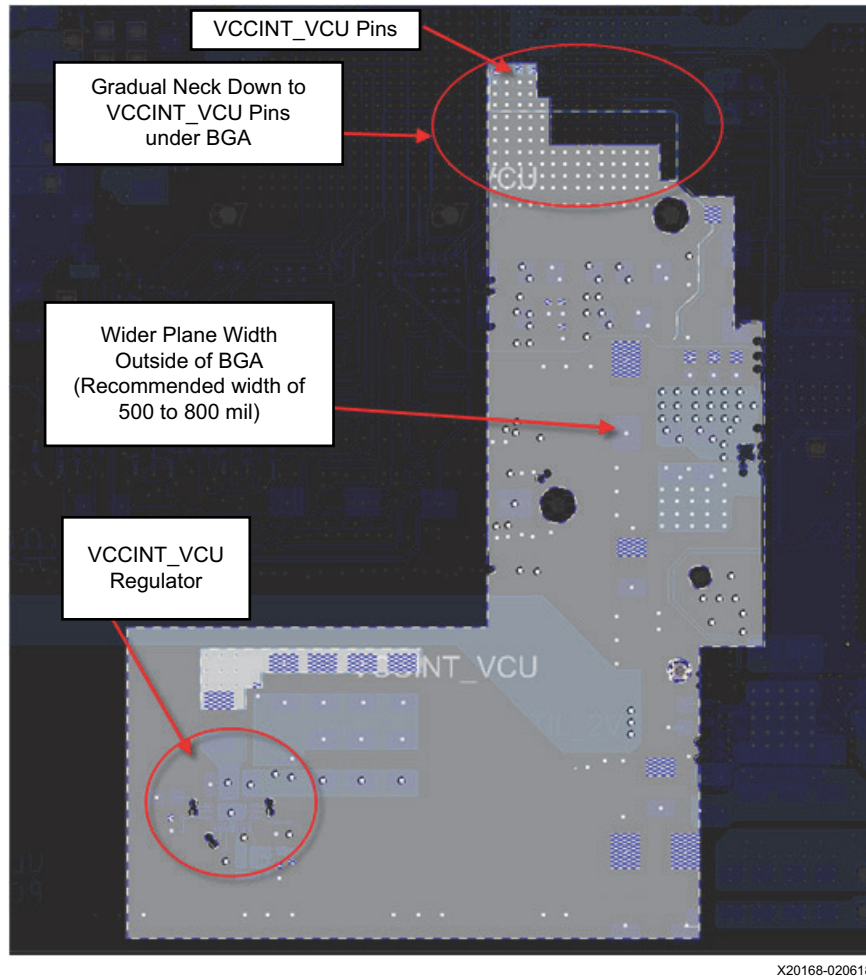

Figure 1-3: Example Plane Layout for  $V_{CCINT\_VCU}$
The  $V_{CCINT\_VCU}$  plane(s) or planelet(s) should be wide enough to accommodate up to 3A of current at their narrowest points, factoring in all width reductions due to vias and other keepouts. However, planes and planelets need to be drawn even wider to reduce resistive losses between the regulator and the BGA pins. While properly routed sense lines offer assistance in offsetting resistive losses, regulator efficiency is maximized when resistive loss is minimized. For these reasons, Xilinx recommends drawing  $V_{CCINT\_VCU}$  planes at 500–800 mil(1) width while outside of the BGA region, and 400 mils under the BGA before the plane gradually narrows to the  $V_{CCINT\_VCU}$  pins. Figure 1-3 shows an example  $V_{CCINT\_VCU}$  plane layout.